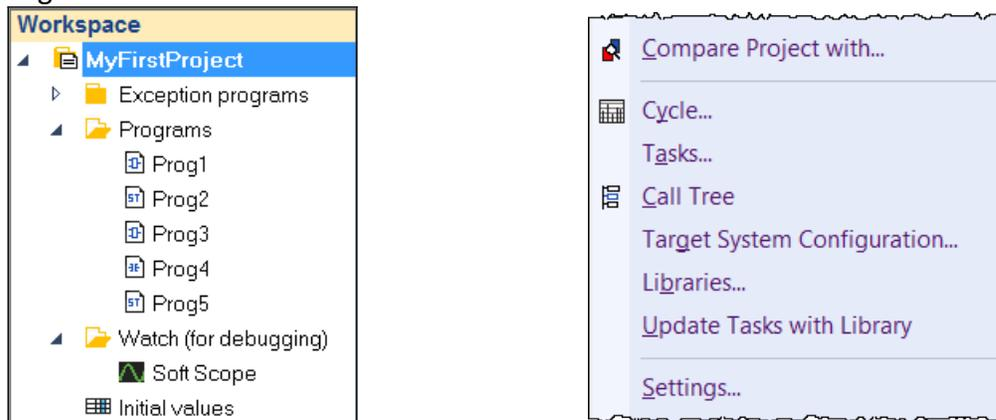
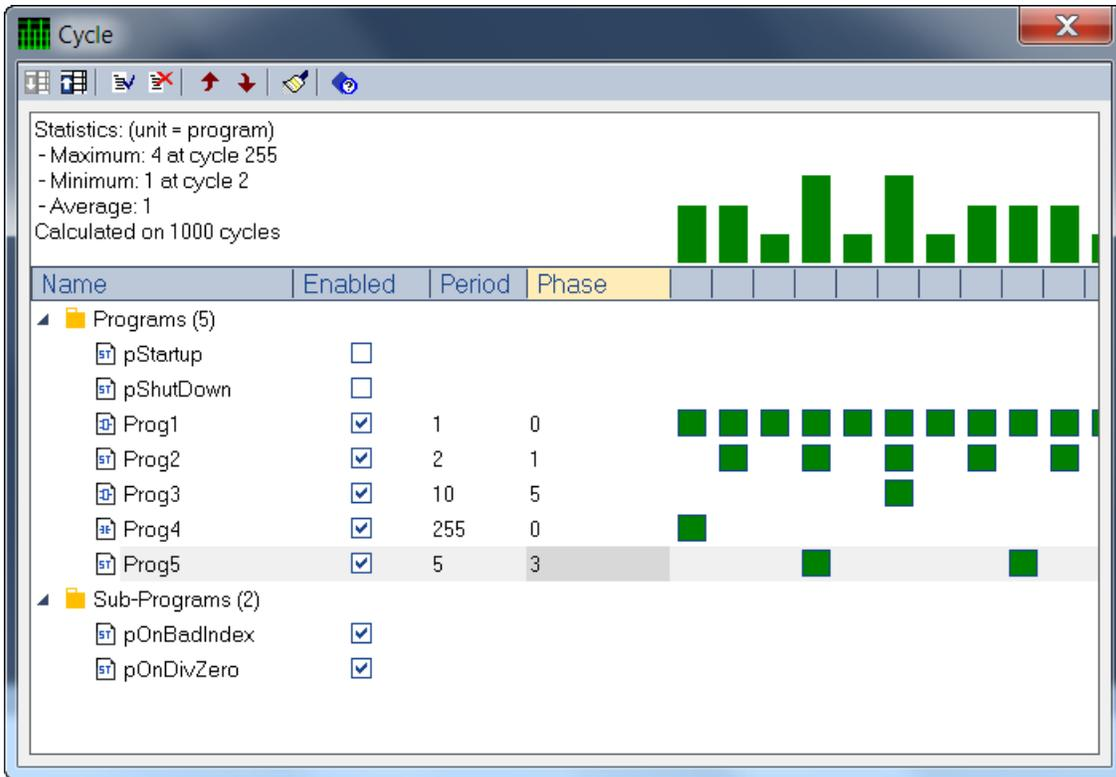

Figure 52: Main task with several programs (left); context menu (right)
Figure 53: Cycle window for program execution property setting
- Prevent execution peaks loading. Execution peaks occur when all programs of a task run in the same cycle. By distributing the program execution over several cycles these peaks can be prevented (see Figure 53)
For example Figure 52 shows an application where the main task consists of five programs.
Use the Cycle dialog (Figure 53) to define the execution properties of the various programs. Open the Cycle dialog by right clicking the task name and selecting 'Cycle...' from the popup menu (Figure 52).
Program execution order	The programs will be executed in the sequence they appear in the table of Cycle dialog from top to bottom. The order of execution is determined by the vertical ordering and therefore the program execution order of Figure 53 is: <ol style="list-style-type: none"> 1. 'Prog1' 2. 'Prog2' 3. 'Prog3' 4. 'Prog4' 5. 'Prog5'